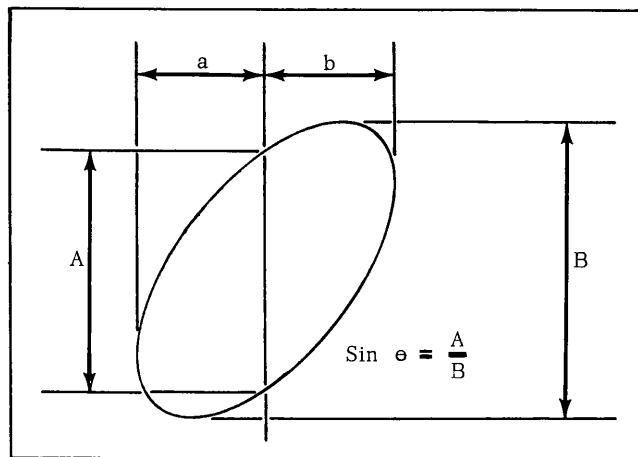

Fig. 3-6. A typical ellipse.
3. Adjust the plug-in unit VOLTS/CM controls until you get a suitable ellipse on the oscilloscope screen. The height of the ellipse is not critical; use any convenient height within the graticule area. Above 10 mc, the size of the ellipse will have to be reduced to prevent distortion due to overloading of the deflection systems. Fig. 3-6 shows the elliptical pattern displayed for a phase angle of 45 degrees. The procedure for measuring the phase angle is independent of the shape of the ellipse.
4. Use the POSITION control of the plug-in unit in the HORIZONTAL channel to center the ellipse about a vertical graticule line. Make the dimensions  $a$  and  $b$ , shown in Fig. 3-6, equal to each other. Within reasonable limits, the specific value chosen for the dimensions  $a$  and  $b$  does not affect the accuracy of the measurements.